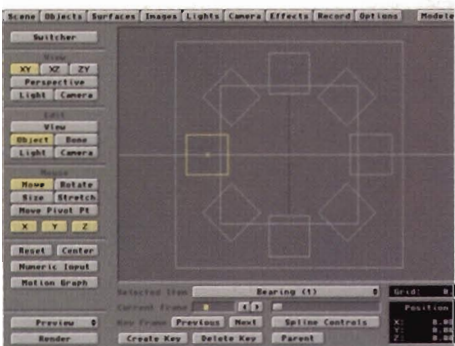
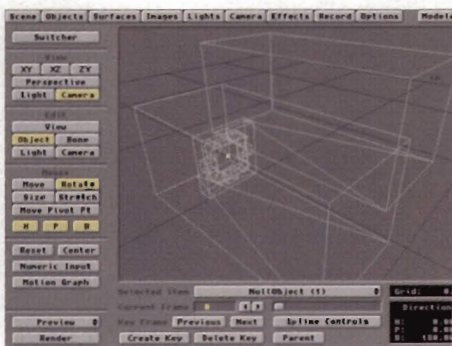

Figure 8
Figure 9
er different speed. Figure 8 shows Bearing (1) highlighted, and the x in the middle represents its axis of rotation, allowing it to spin on itself while the Null Object to which it is attached lets it spin around the GearShaft. This is much easier done than said, so go ahead and give it a try. You should end up with a scene similar to Figure 9.